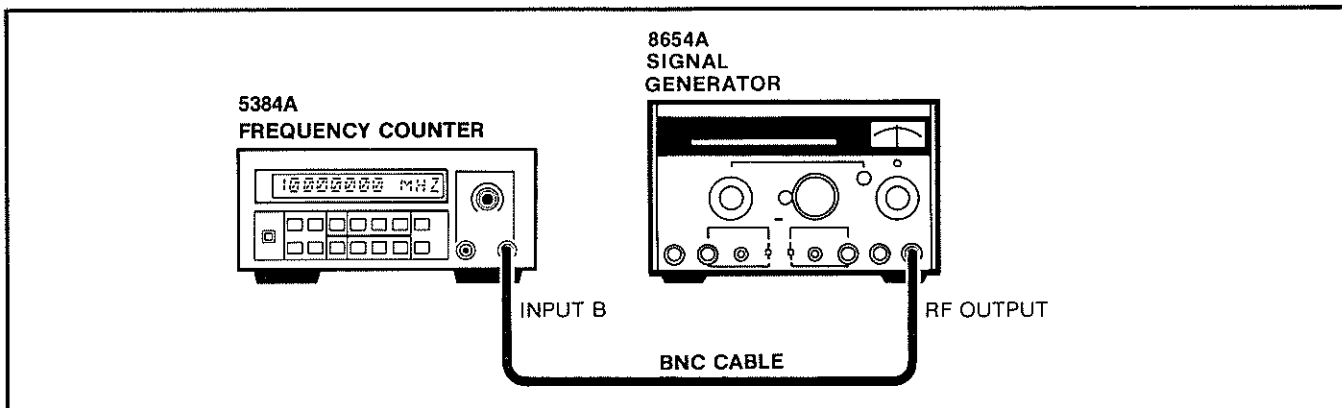

Figure 5-2. 5384A Channel B Input Amplifier Adjustment Setup
a. Connect the 8654A Signal Generator as shown in Figure 5-2.